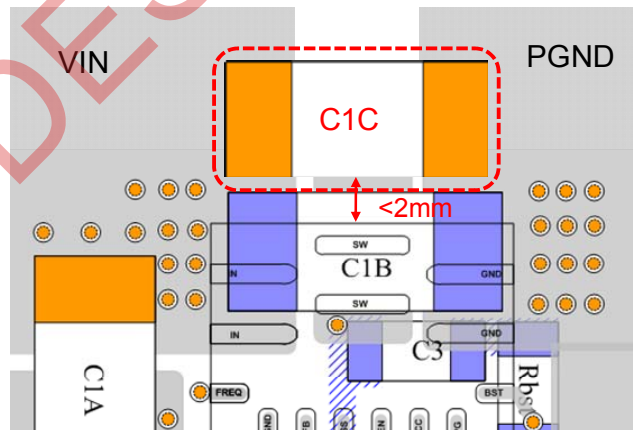

Figure 17—VIN Decouple Capacitor
- If VIN/PGND vias is not allowed beneath the IC, a 22uF input cap with 1206/1210 package (C1C) is required on the Top layer as Figure17, connecting to VIN and PGND copper directly, within 2mm of the IC edge.